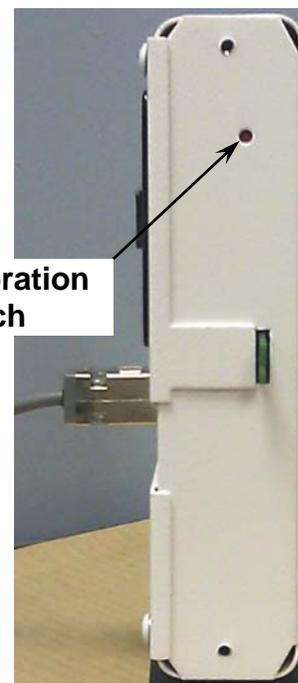

Figure No. 11
1. With the power off, remove the two (2) screws from the right end cap (as viewed from the MV1 back) and remove the end cap.
2. Locate the calibration switch (access is through a hole near the top of the side panel. See Figure No. 11.